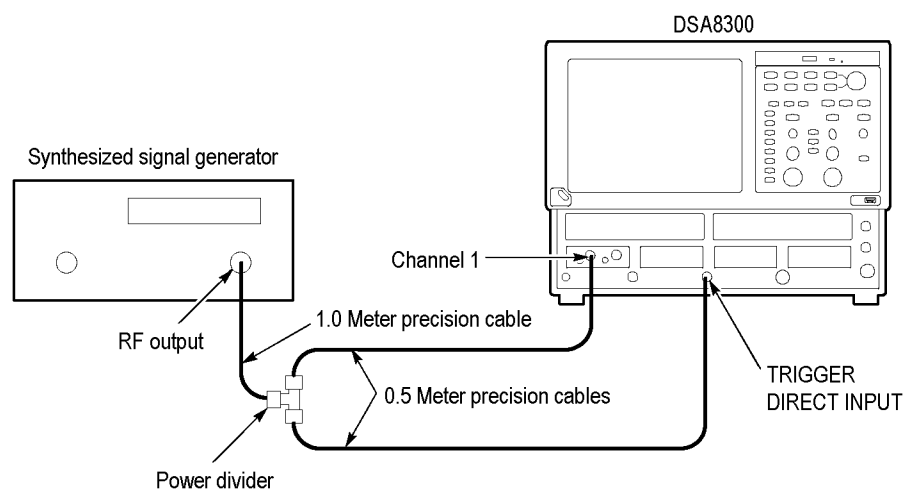

Figure 8: External direct trigger sensitivity test setup
2. Connect the test equipment (See Figure 8.)